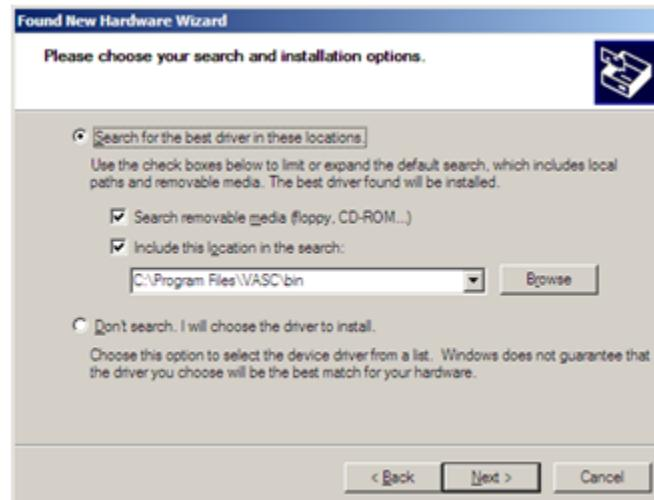

Figure E-2. Search and Installation options
2. Select **Install from a list or specific location (Advanced)** option as shown in Figure E-1, and click on the **Next** button. Search and installation options window appears as shown in Figure E-2.